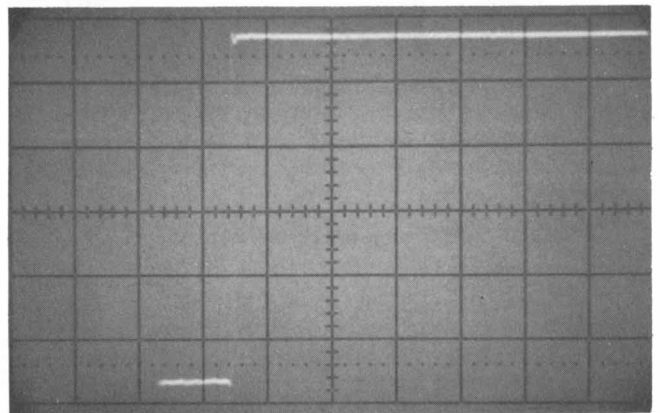

Figure 5-11. High-Frequency Response
h. Adjust Hi Freq Response L7 and L8 for best high frequency corner (see figure 5-11).